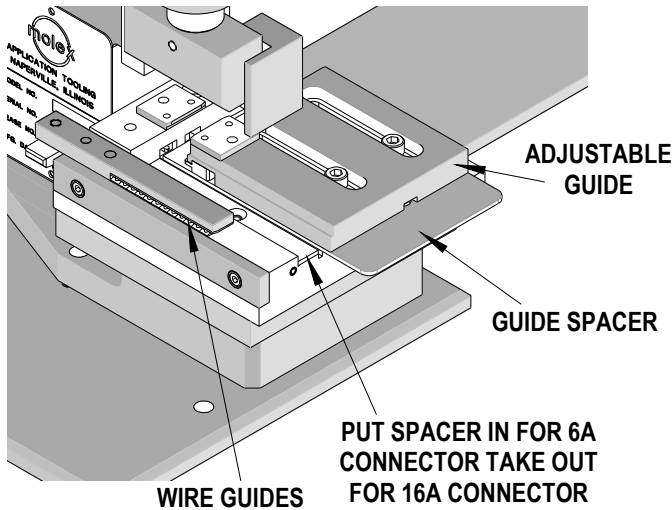

Figure 2-3
3. In the bottom of the groove in between the adjustable guide and the wire guides there is a plate that must be removed if 16A connectors are to be loaded or installed if changing to the 6A connectors. (See Figure 2-3.)